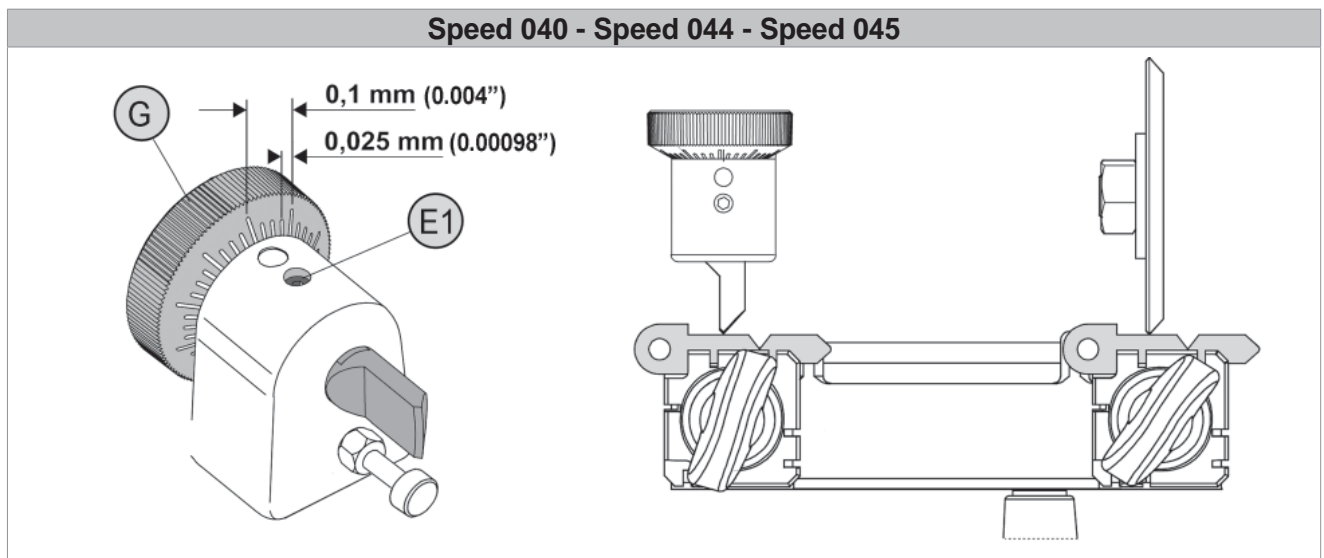

Fig. 20
- 7) Move the keys into contact with the cutting tool and tracer point (Fig. 20).
NOTE: each notch on the centesimal ring corresponds to 0,025 mm (0.00098") (Fig. 20).